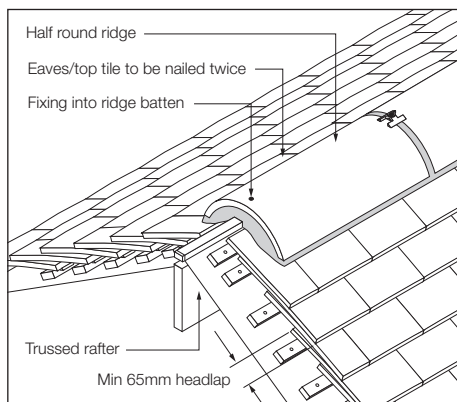

Fig. 17 – Clay bedded ridge using the mortar bedded security ridge kit
- 5 Provides mechanically fixed ridge tile in line with BS 5534 fixing guidelines (Fig. 17)